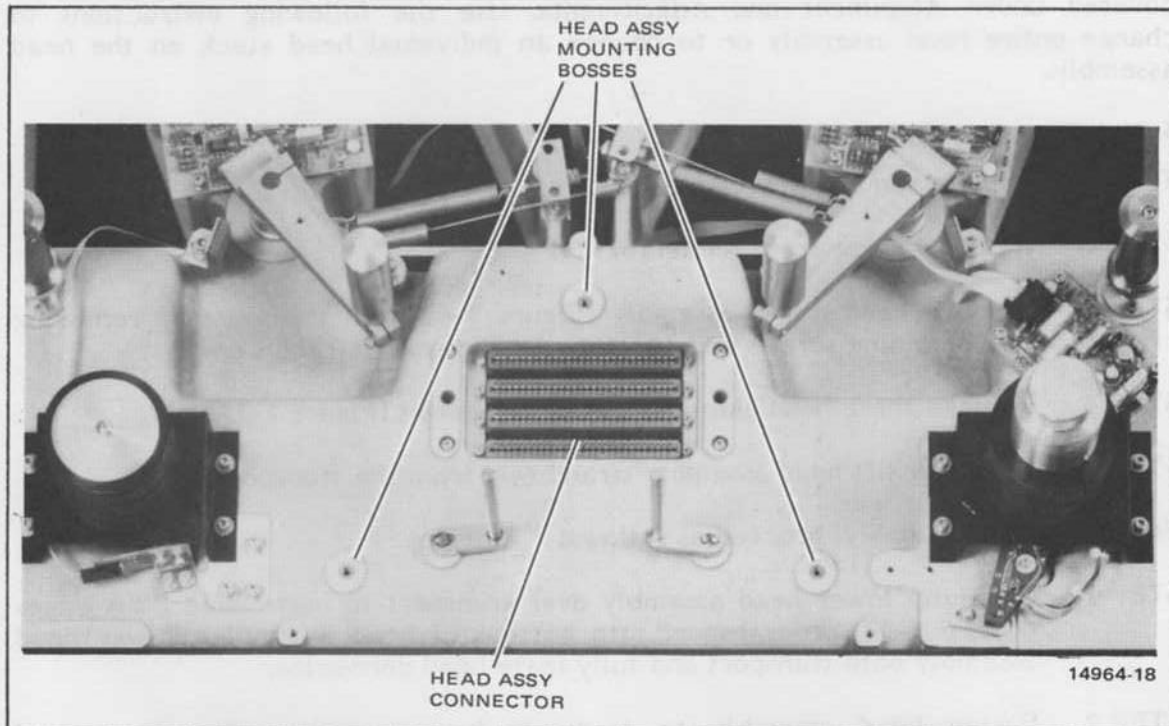

Figure 5-34. Head Assembly Connector and Mounting Bosses
- STEP 1 Carefully lower head assembly over transport to mate head PWA edges (Figure 5-34) on transport into bottom of head assembly. Lower head assembly onto transport and fully mate head connector.
- Carefully lower head assembly over transport to mate connector PWA (Figure 5-34) to the transport.